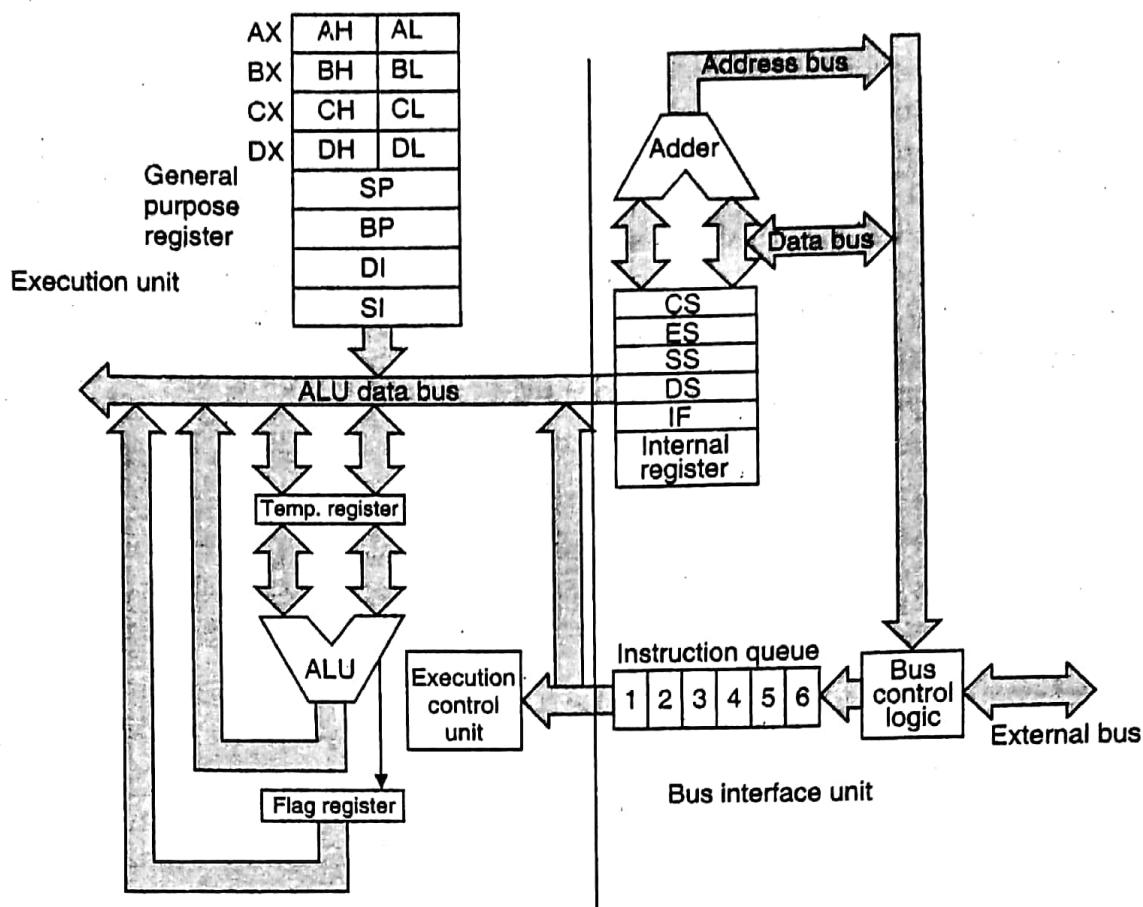

Figure 19.1 Block diagram of 8086.
The 8086 consists of two main sections, the bus interface unit (BIU) and the execution unit (EU). The EU contains the ALU, flags and general purpose registers. The EU carries out all the arithmetic and logical operations. All the registers in the 8086 are 16 bits wide, although some can be used as two 8-bit registers. The BIU controls the address, data and control buses. When the EU is decoding an instruction or executing instructions inside the microprocessor, the BIU pre-fetches instructions from memory and stores them in the instruction queue for faster processing. The block diagram of 8086 is shown in Figure 19.1.